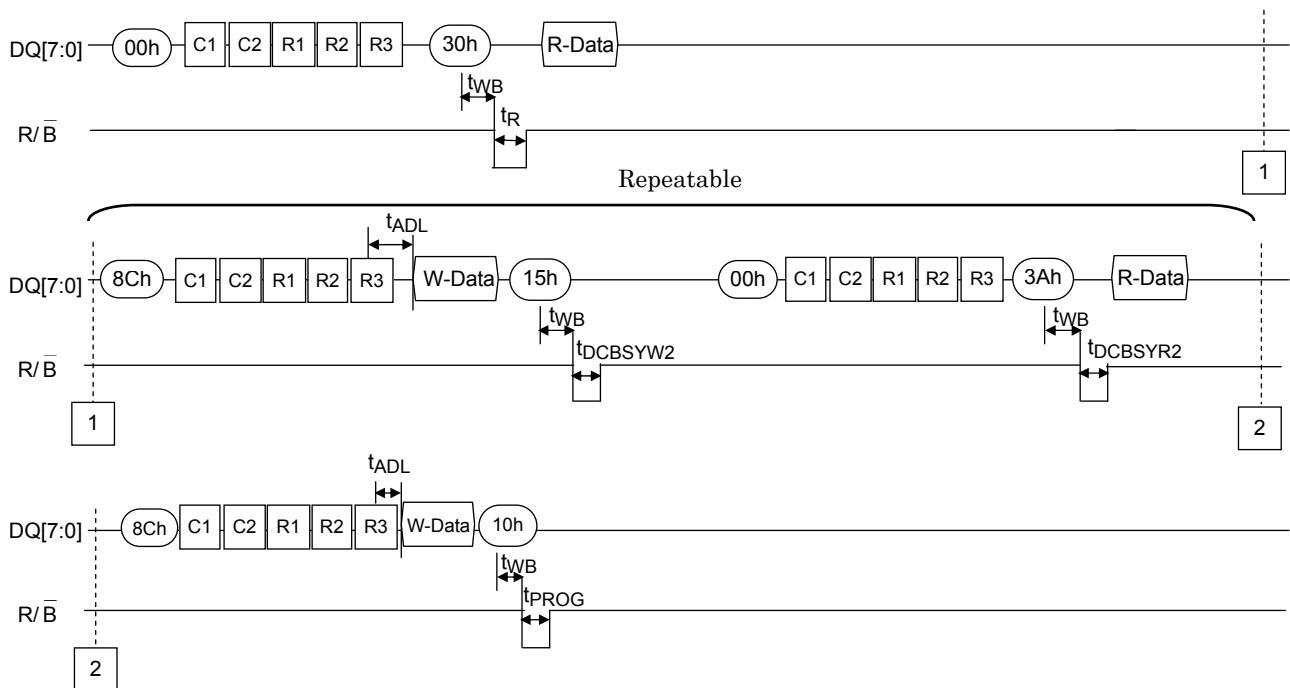

Figure 55. Example Timing with Page Copy (2)
Figure 55 defines Page Copy (2) behavior and timings.